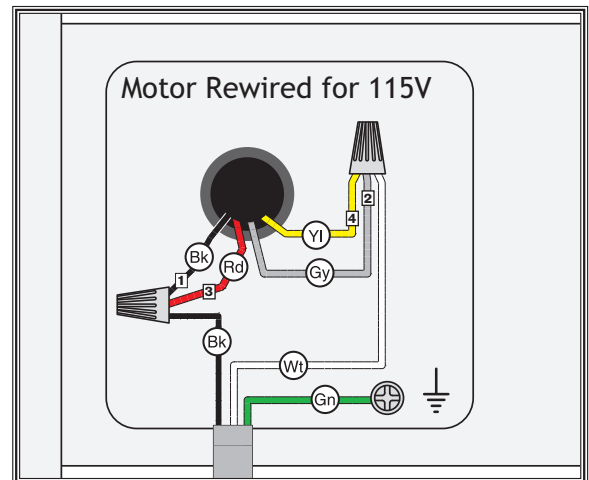

Figure 6. Motor rewired for 115V operation.
5. Use wire nuts to connect the wires as illustrated in **Figure 6**.